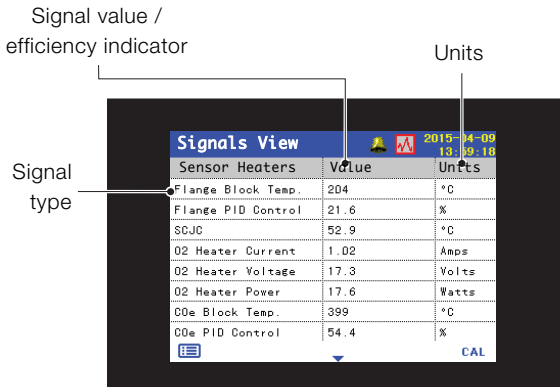

Fig. 8.7 Signals view
- *Signals view* – displays a list of active signals and their values (see Fig. 8.7)